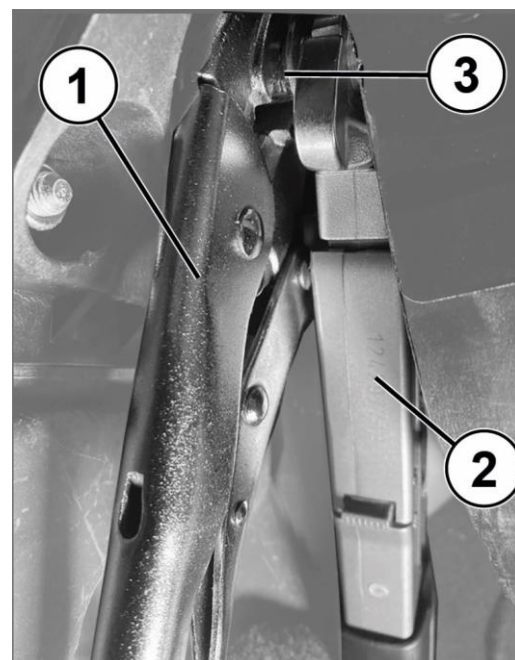

Figure 8 – Tighten Tip
13. Tighten the spherical head assembly with a torque wrench with a 17-mm socket (crows' foot) to a torque of 16 N·m (12 ft. lbs.) (Figure 8).
14. Remove the torque wrench (2), the grip pliers (1) and the wrench (3) (Figure 8).